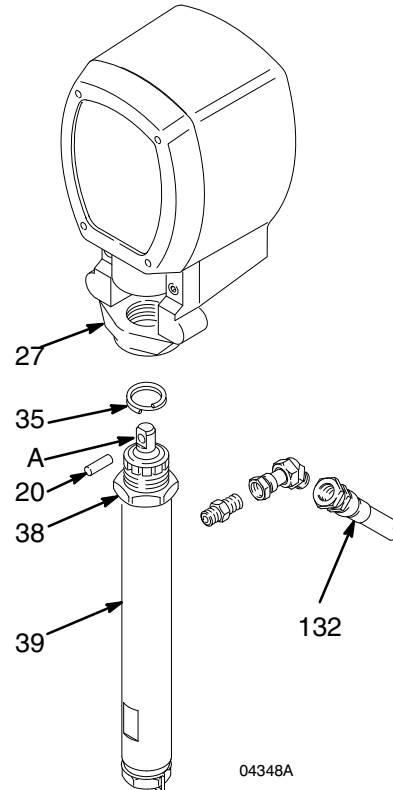

Fig 11
**Removing the pump** See Fig 11 and parts list.
2. Remove hose (132).
3. Push retaining spring (35) up and push out pin (20).
4. Loosen locknut (38) and unscrew pump one half turn from bearing housing (27).
5. Remove spring clip (75) and drain tube (79) from pump.
**Installing the pump** See Figs. 11, 12, and parts list.
1. Screw displacement pump into bearing housing (27) until pin hole in connecting rod assembly (29) and displacement rod (A) align. Install pin (20).
2. Continue to screw pump into bearing housing until top threads of pump cylinder are flush with face of bearing housing, and outlet nipple (75) is straight back. Unscrew pump 1/2 turn so pump outlet is at rear. Push retaining spring (35) into groove around connecting rod to prevent it from vibrating loose. Tighten locknut (38) to 70 ft-lb (95 N.m).
3. Install spring clip (75) and drain tube (79) to pump.